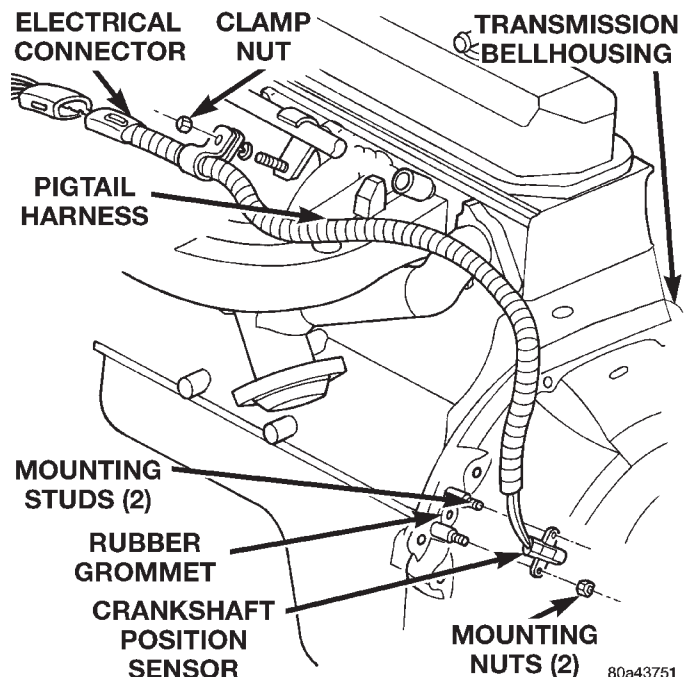
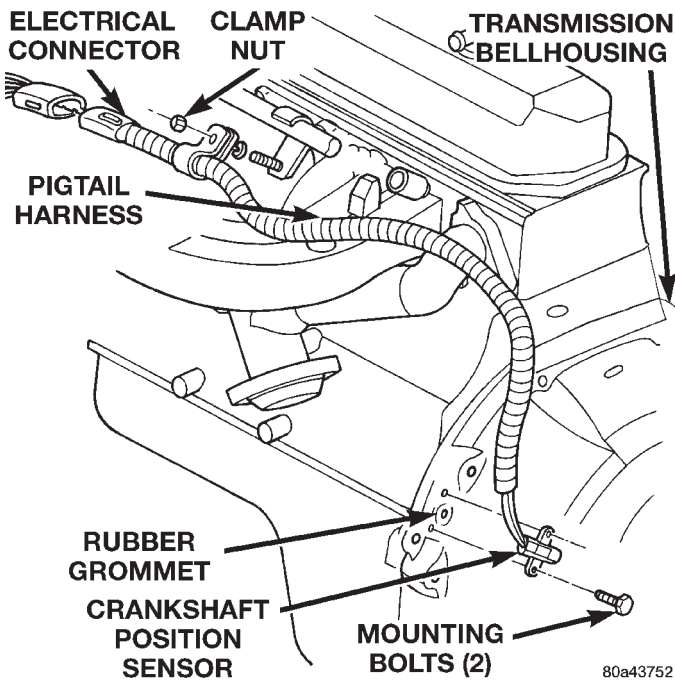

Fig. 6 Crankshaft Position Sensor—2.5L Engine
Fig. 7 Crankshaft Position Sensor — 4.0L Engine
- (7) Mark front propeller shaft, axle, and transfer case yokes for installation alignment, if equipped.
- (8) Remove propeller shaft(s).
- (9) Unclip wire harnesses from transmission and transfer case, if equipped.
- (10) Disconnect transfer case vent hose, if equipped.
(11) Disengage any wire connectors attached to transmission or transfer case, if equipped, components.
(12) Support transfer case, if equipped, with transmission jack.
(13) Secure transfer case, if equipped, to jack with safety chains.
(14) Disconnect transfer case shift linkage at transfer case, if equipped.
(15) Remove nuts attaching transfer case to transmission, if equipped.
(16) Remove transfer case, if equipped.
(17) Remove crankshaft position sensor (Fig. 6), (Fig. 7).